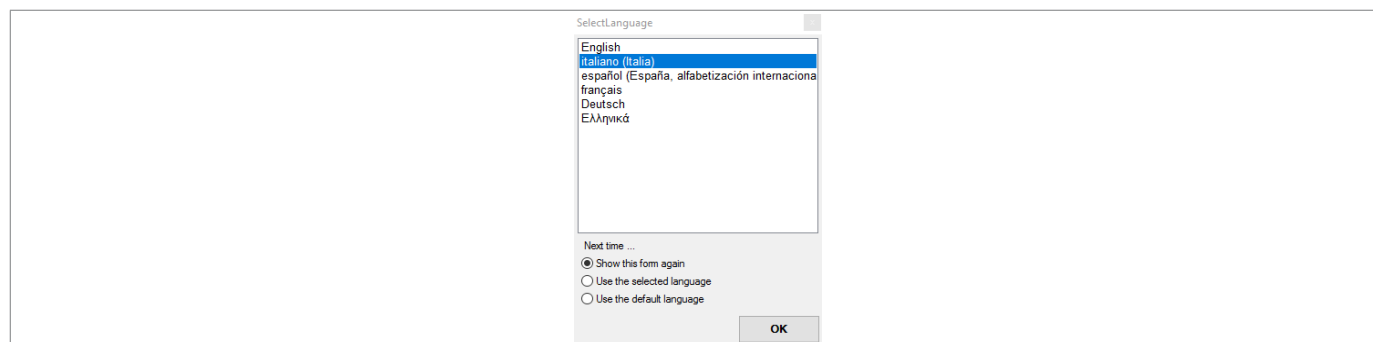

Fig. 8.20. Select language
2. Select the desired language (Fig. 8.20)